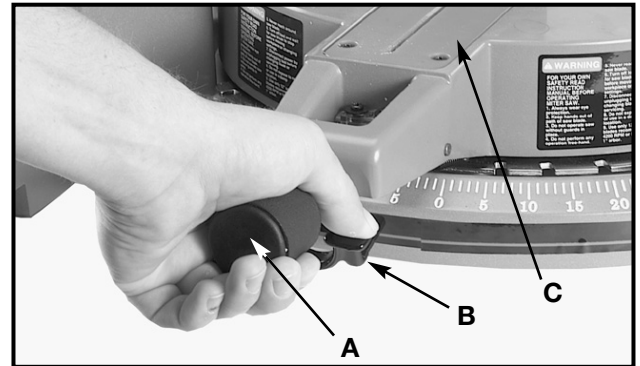

Fig. 6
1. Rotate locking knob (A) Fig. 6 counter-clockwise as far as it will go. Depress lever (B) and rotate table (C) to the 0° straight cut-off position, release lever (B), and tighten locking knob (A).